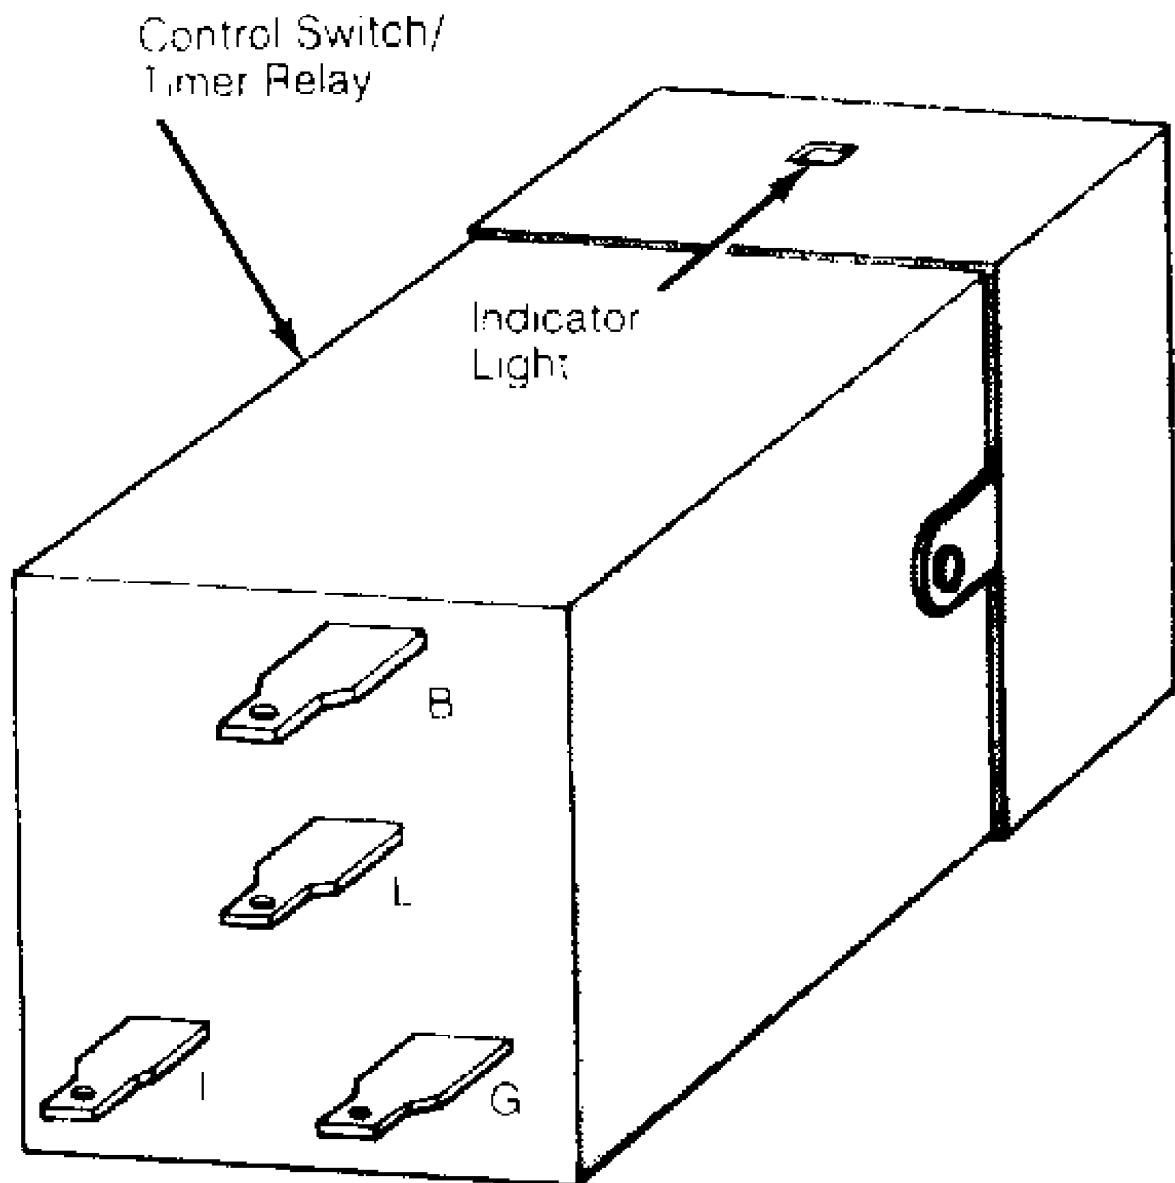

Fig. 1: Control Switch/Timer Relay Terminals
1) Remove control switch/timer relay from instrument panel with wiring still connected. Turn ignition on. Using a DC voltmeter, check for voltage at terminals "B", "I" and "L". See Fig. 1. Both "B" and "I" should have 10-14 volts present. Terminal "L" should indicate zero volts.